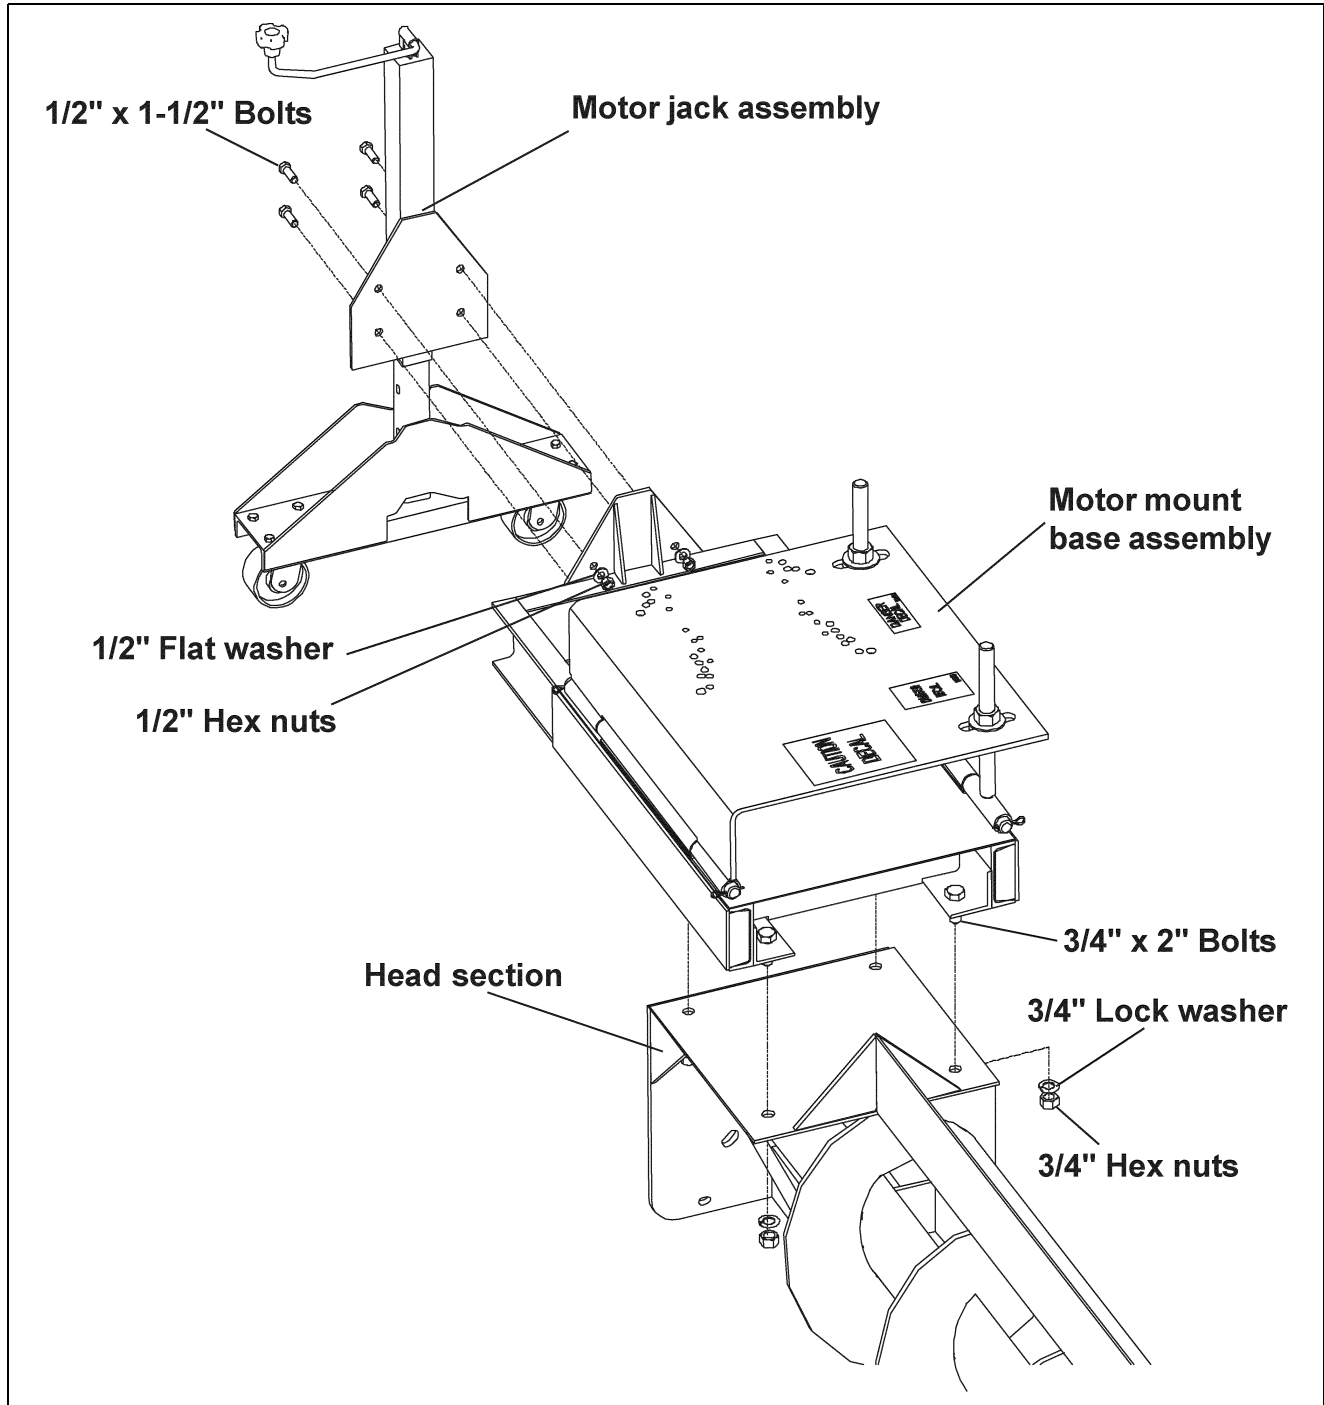

Figure 5V
- A. Attach the Motor Mount Base Assembly to the Head Section using four (4) 3/4" x 2" bolts, lock washers and hex nuts. (See Figure 5V)
- B. Attach the Motor Jack Assembly to the Motor Mount Base Assembly using four (4) 1/2"-13 x 1-1/2" bolts, 1/2" flat washers and 1/2" hex nuts.